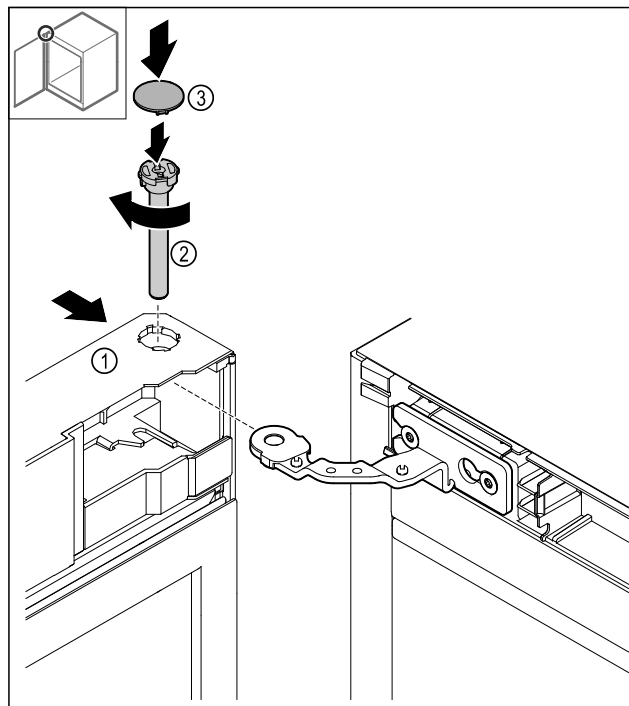

Fig. 51
- Slide the door Fig. 51 (1) onto the top hinge.
- Insert the bolt Fig. 51 (2) and turn it clockwise to tighten.
- Put on the cover Fig. 51 (4).